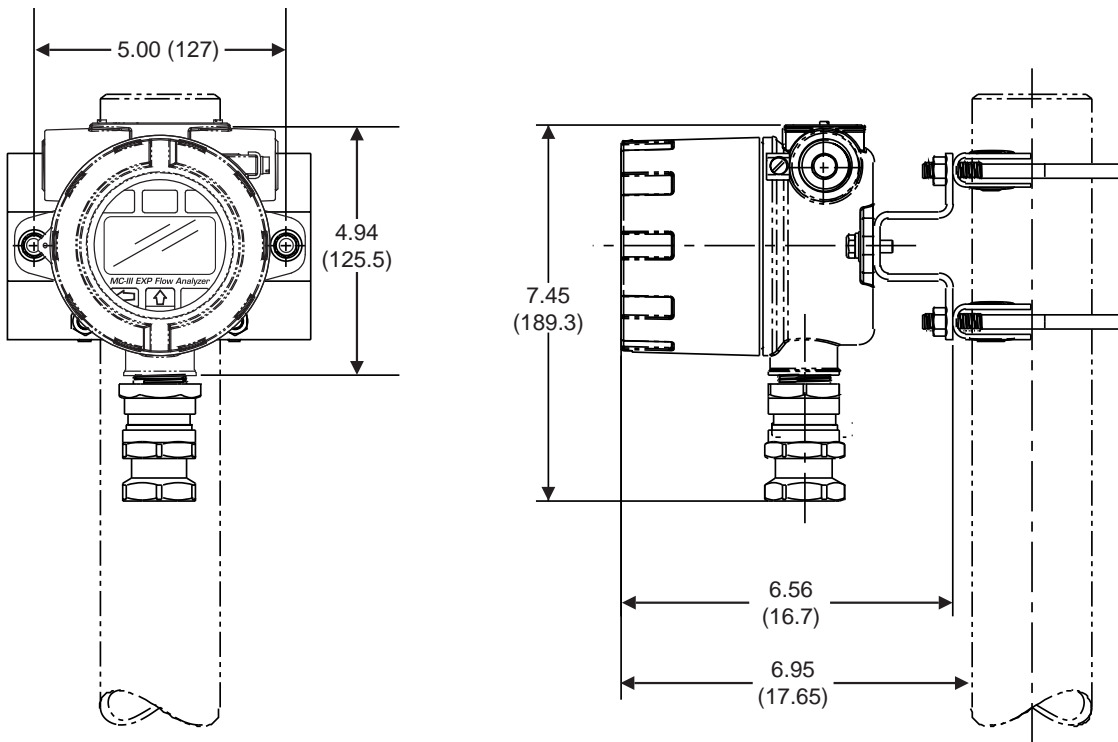

Figure 2.4—Remote mount on a 2-in. pole using a NuFlo hardware kit (Part No. 9A-30028004)
- Remote-mount the device to a 2-in. pole using a NuFlo hardware kit (*Figure 2.4, page 16*). Pole mounting may be preferred where limited space or pipe vibration prohibits direct-mount installation. For best results, install the device as near as possible to the meter to minimize the length of explosionproof signal cable that must be used for communications. Stranded, shielded cable is recommended.